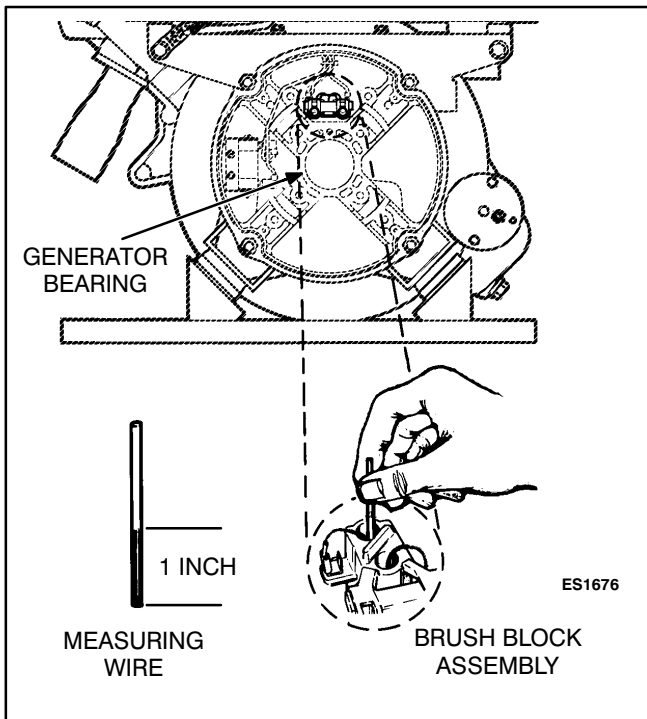

FIGURE 4-6. CHECKING GENERATOR BEARING AND BRUSH BLOCK
2. Check the brushes for wear with a piece of wire marked off 1 inch (25 mm) from one end (Figure 4-6). Replace the brush and the spring if the wire goes into the brush holder 1 inch or more.